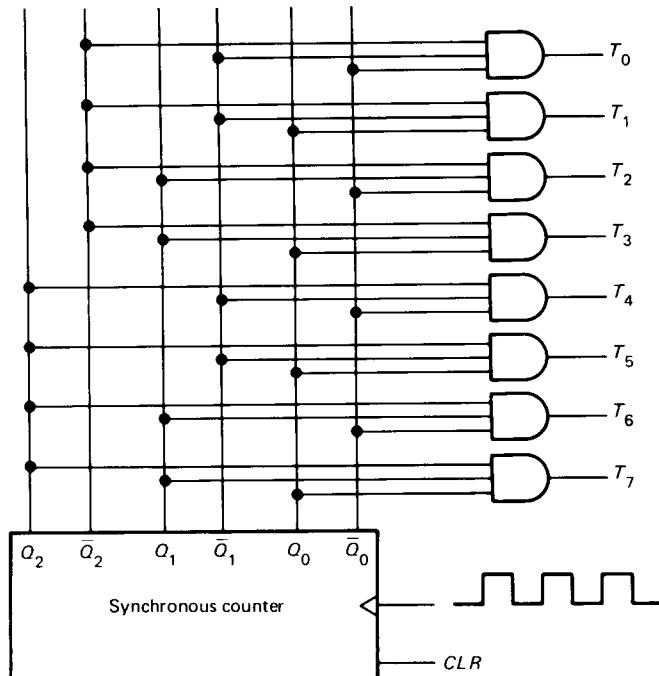

Fig. 8-32
- 8-13.** If the clock frequency is 5 MHz in Fig. 8-32, how long does it take to produce all the ring words? How long is each timing bit high?
- 8-12.** Figure 8-32 shows another way to produce ring words. After the circuit is cleared,